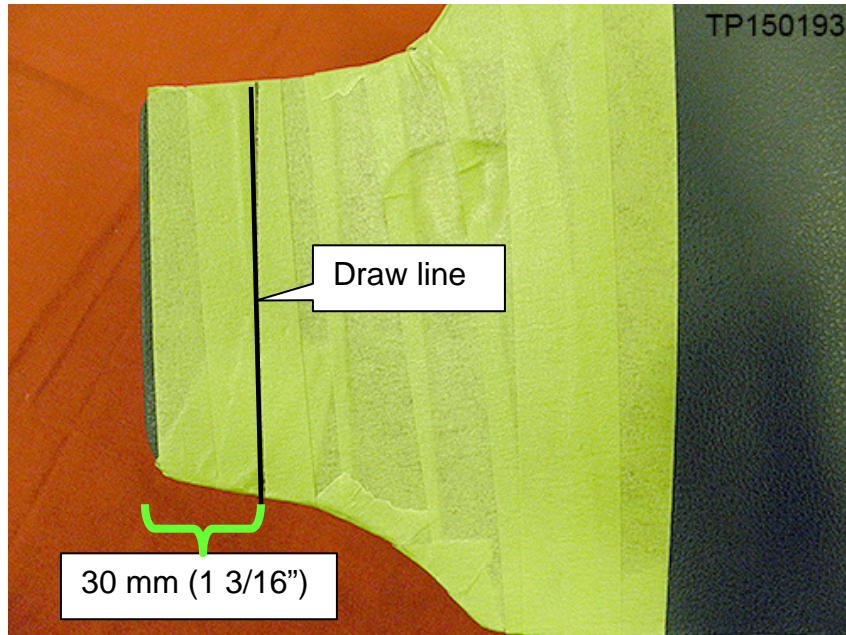

Figure 8
9. Measure 30 mm (approximately 1 3/16 inches) from driver's side leading edge of the Center Console Lower and then draw a line parallel to the same leading edge (Figure 8).